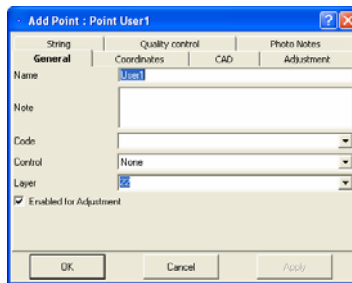

Figure 5-24. Add Point Dialog Box
- On the **Add Point** dialog box (Figure 5-24) you can correct the point name (by default “User n” where *n* is the number), the coordinates in the coordinate system set for the current job, enter a code, string, control codes, note and set a control. Click **OK**.
To set the layer for a point (Figure 5-26), select the layer using the *General* tab in the **Add Point** dialog box (Figure 5-24). The attributes (color and point style) for the selected layer will be assigned to this point.